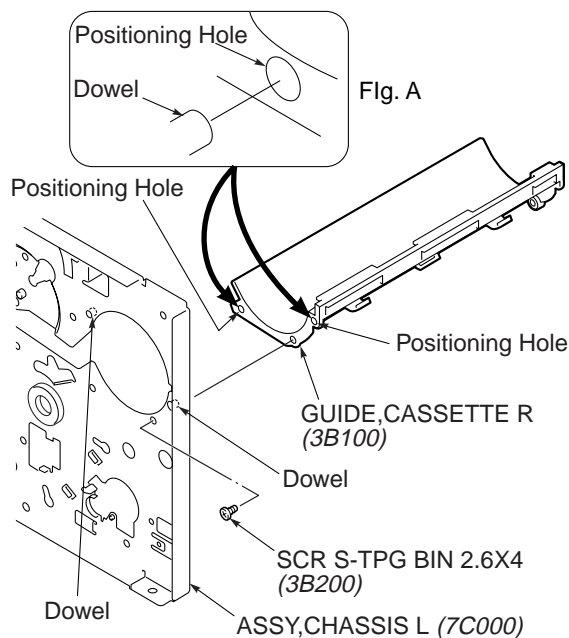

Fig. 3-15-1
(See Figs. 3-15-1 to 3-15-2)
- 2) Remove the “SCR S-TPG BIN 2.6X4 (3B200)” and remove the “GUIDE,CASSETTE R (3B100)”. (Refer to Fig. 3-15-1.)
1. Install the “GUIDE,CASSETTE R (3B100)” so that the positioning hole on it aligns with the dowel on the “ASSY,CHASSIS L (7C000)” as shown in Fig. A of Fig. 3-15-1.